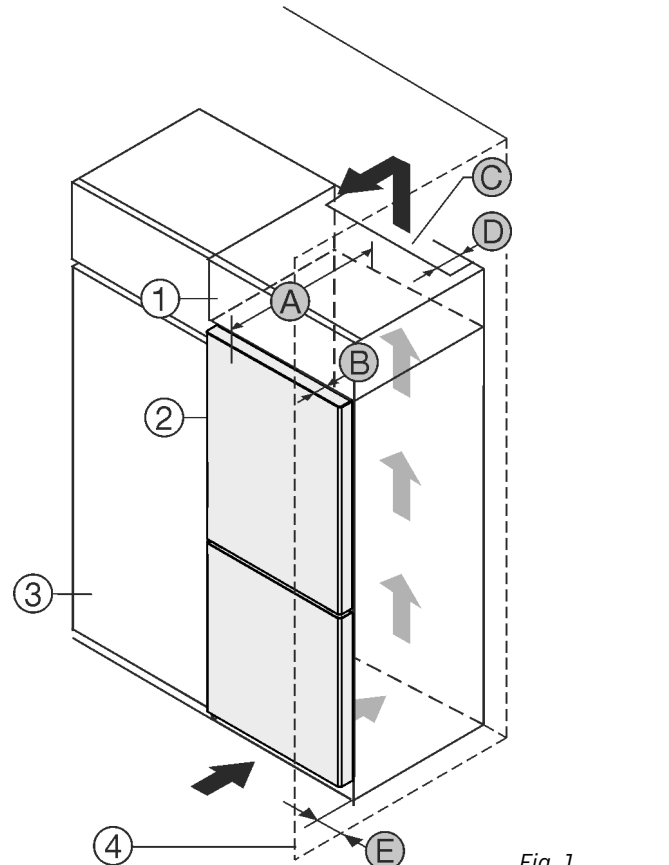

Fig. 1
Set up the appliance directly next to the kitchen cabinet Fig. 1 (3)*.
There must be a ventilation shaft at the depth Fig. 1 (D) of the back of the top cupboard over the entire width of the top cupboard.*
The ventilation cross-section Fig. 1 (C) must be maintained under the ceiling.*
If the appliance is set up with the hinges next to a wall Fig. 1 (4), the distance between the appliance and the wall must be at least 13 mm.*
If the appliance is set up with the hinges next to a wall Fig. 1 (4), the distance between the appliance and the wall must be at least 20 mm.*
In order to be able to fully open the door, the appliance must protrude by the depth of the door Fig. 1 (B) from the front of the kitchen cabinet. The appliance may protrude further depending on the depth of the kitchen cabinets Fig. 1 (3) and whether wall spacers are used.*